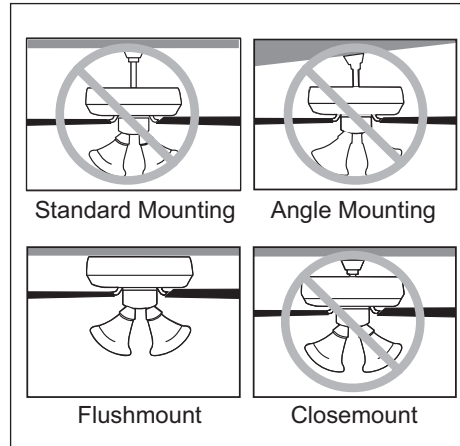

Figure 1.2
2. This fan is intended for Flushmount Installation. Standard Mounting, Angle Mounting, and Closemount installations are not available (Figure 1.2).